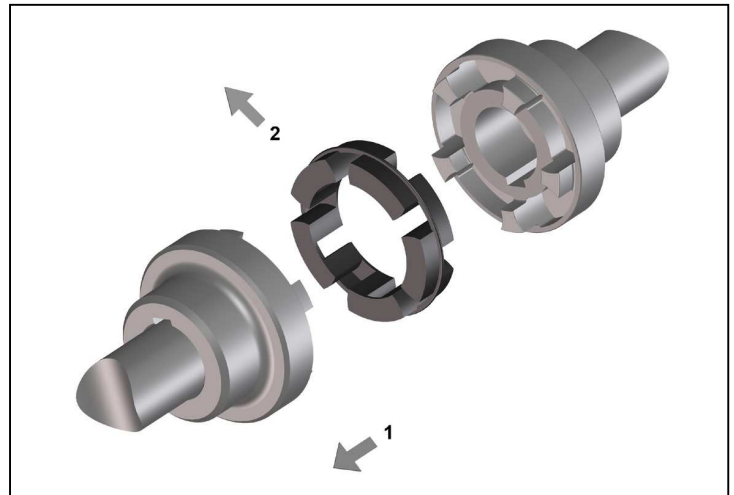

Fig. 10
- Pull back a shaft with mounted coupling hub (Figure 10, Pos. 1).
- Remove the intermediate ring (Figure 10, Pos. 2).